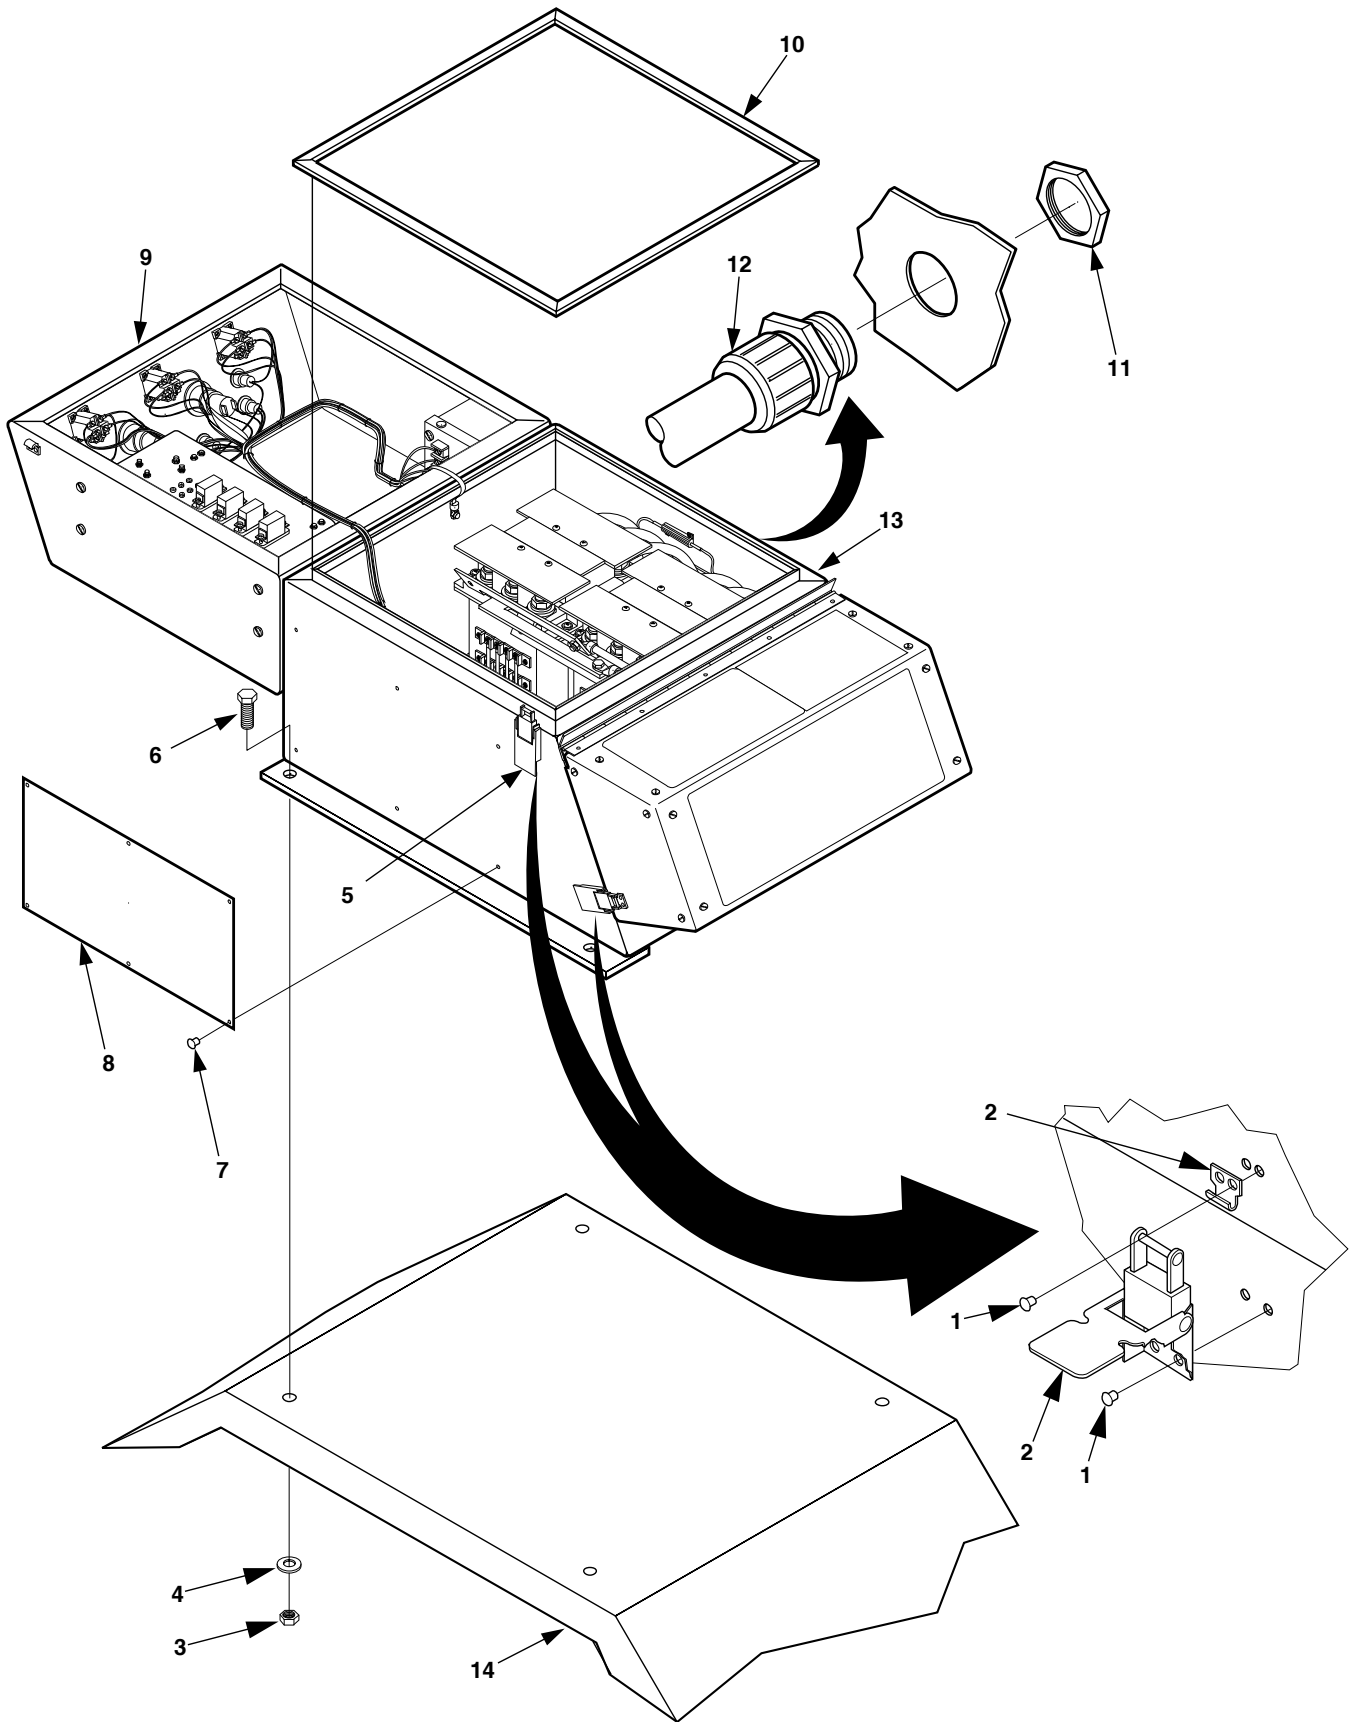

Figure 4-13. Switch Box Repair (OLD).
1. Release clamping catches (5, figure 4-13) and open switch box cover (9).